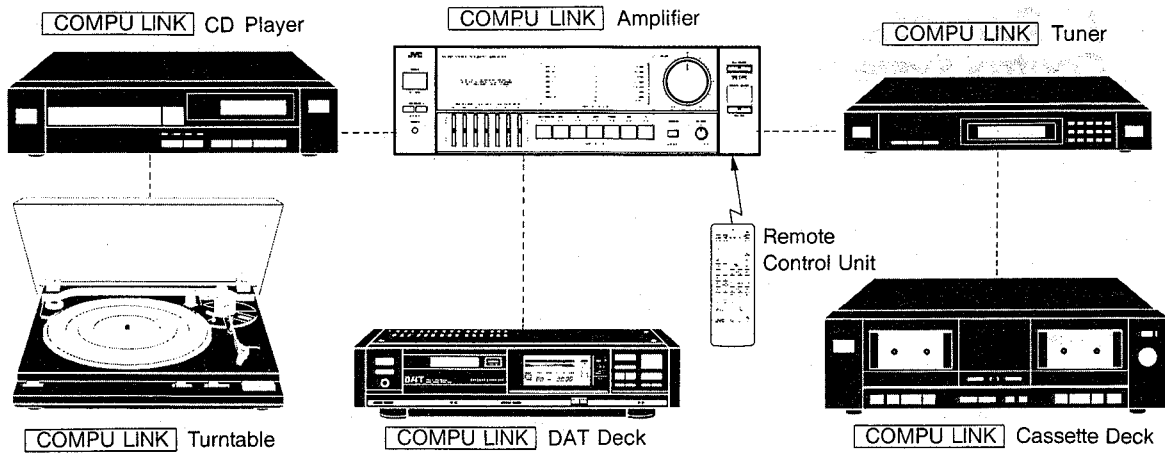

Fig. 15
1. Remote Control of Each Component (Fig. 15)